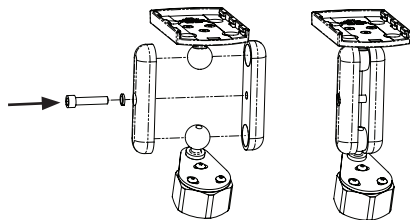

Figure 3
5. Using the $5/32"$ Hex Key, loosely reassemble the Mount as shown in **Figure 3**.